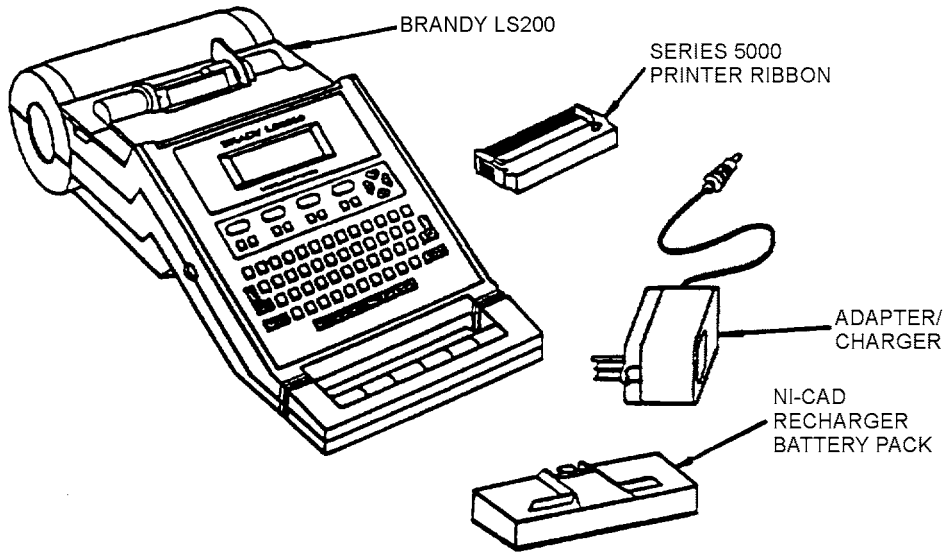

Figure 9. Brady LS2000 Labeling System
42. **DESCRIPTION.** The Brady LS2000 is a portable, self-contained, high resolution, shuttle head impact printer (Figure 9).